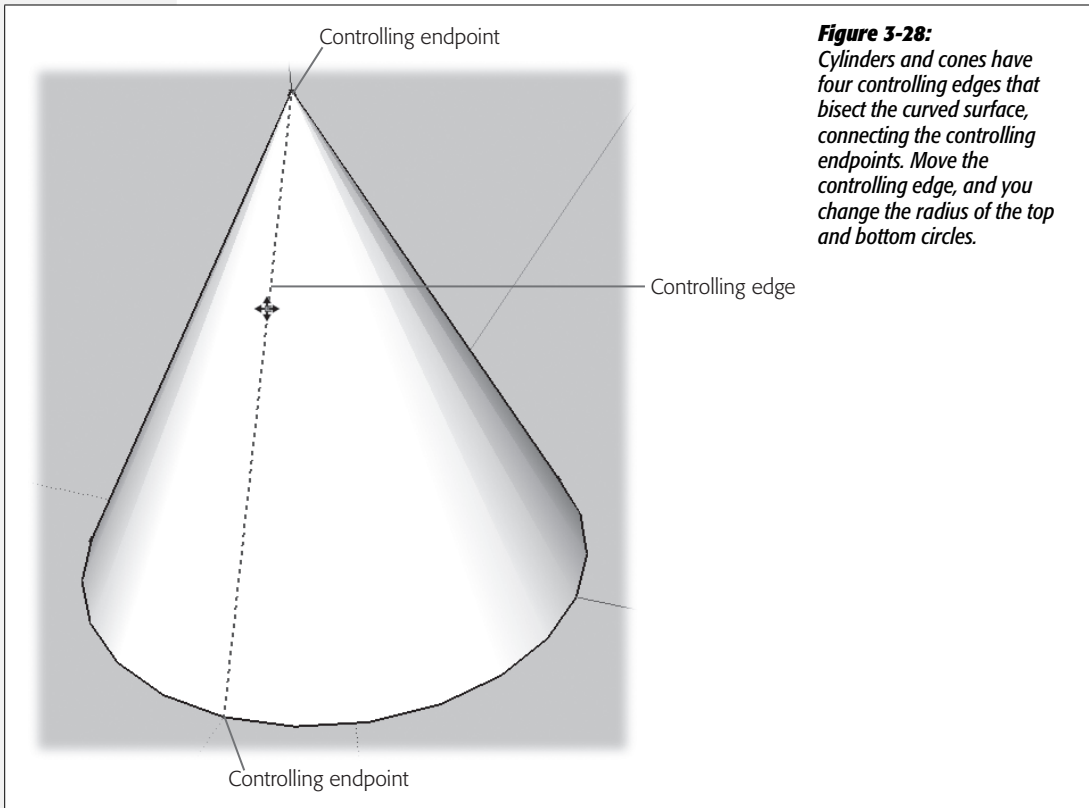

Figure 3-28:
7. Move the endpoint all the way to the center to create a cone, as shown in Figure 3-28.
When the cursor is over the controlling edge, you see a thick, dotted highlight line as shown in Figure 3-28.